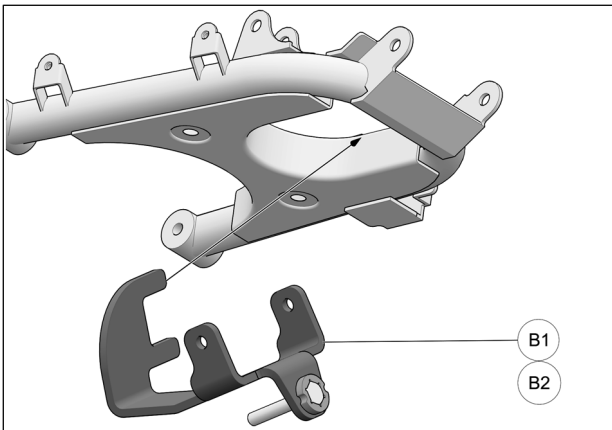

Fig. 6
6. Lift and hook C-shaped part of anchor bracket (B1-B2) up to lower suspension arm as shown in Fig. 6